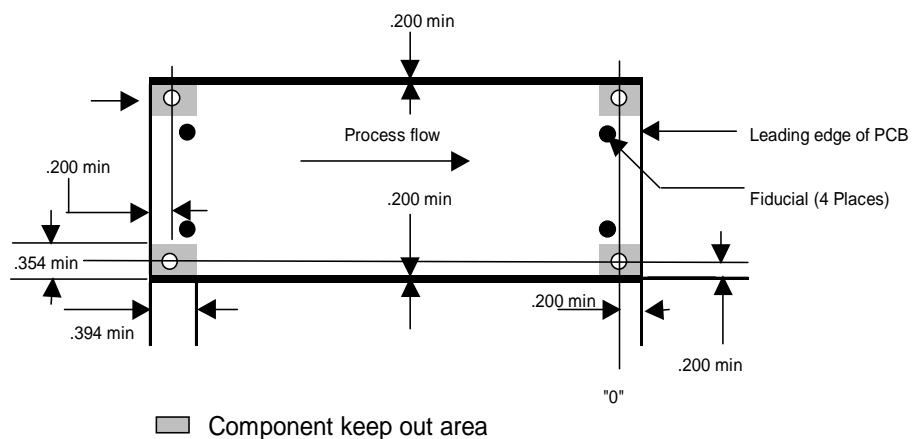

Figure 2.6: Tooling Hole Clearances and Placeable Area for SMT
**2.6 Tooling Hole Locations –** Four non-plated tooling holes 0.125” are required on each PWB in order to provide accuracy for automatic assembly and test processes. This requirement is the same for panelized PWB’s but the holes may exist on the breakaway material. The location and clearances are as in Figure 2.6. For SMT Assembly machine there is a location pin restriction of .400 area from front edge of Board or Pallet. See figure 2.6.A